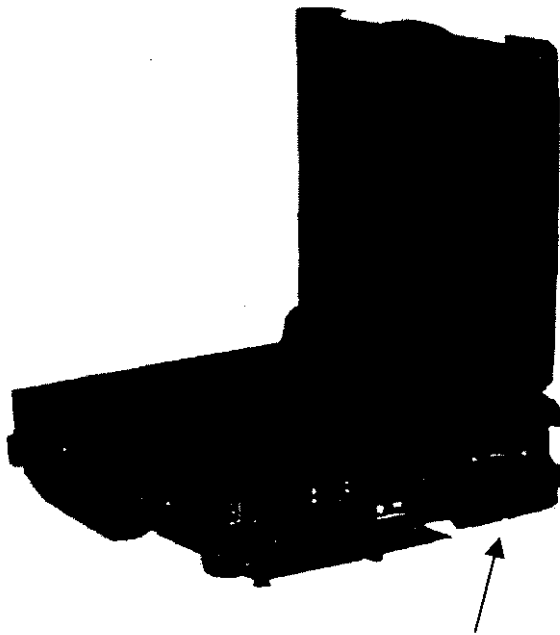

Figure 2-7 Removing a Hard Disk
3. Grab the handle of the hard disk module and pull it out. (See Figure 2-7).